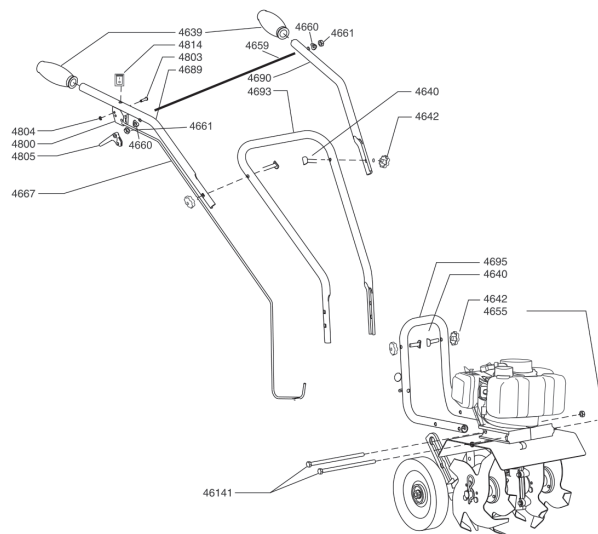

Figure 1
2. Attach the lower bar, please put the bar ok and put the bolts (46141) the nuts() assemble the lower handlebar see figure 1.
3. Using two tee handle nuts (4640), two bolts (4642), assemble the middle handlebar (4693) to the lower handlebar (4695) that is already attached to the mini cultivator assembly. See Figure 1. The middle handlebar can be installed in two positions one high and one low. **DO NOT** overtighten the tee handle nuts.
4. Before assembling the upper handle, please put the lever (4659) first and then Attach the upper right and left handlebars (4689 & 4690) to the middle handlebar using the two remaining tee handle nuts, bolts, and curved washers. See Figure 1. **DO NOT** overtighten the tee handle nuts.